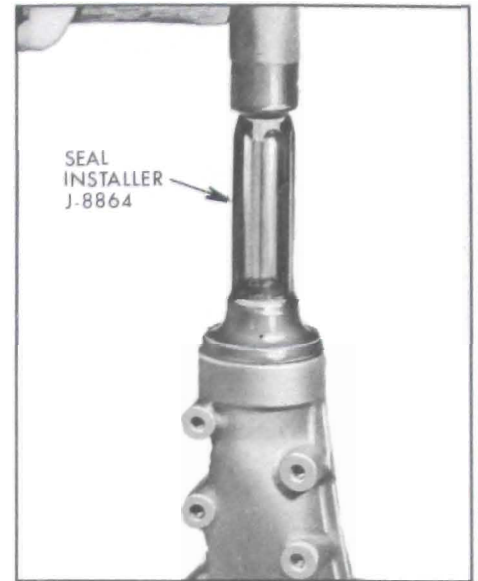

Figure 4-77—Installing Case Extension Oil Seal
18. Install new oil seal in rear bearing retainer, using Seal Installer J-8864. See Figure 4-77. Lightly coat seal with gear lubricant.